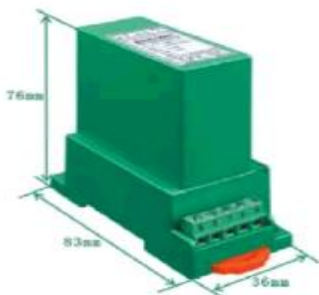

Figure1 MS3 style
- ① The transducer fixed on the side of the card slot and hook on the mounting rail;
- ② Pull the spring pin down (as show in the bottom of figure1 the red spring pin);
- ③ Clip the transducer mount on the mounting rail;
- ④ Release the spring pin and clip the transmitter on the mounting rail.